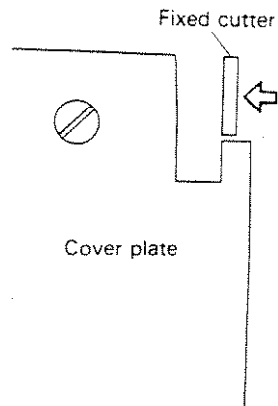
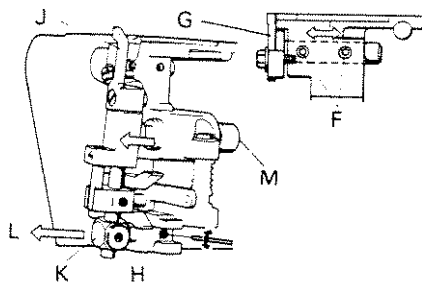

Fig. 3
Fig. 4
10. Loosen screws(F) by hexagonal screw driver and align fixed cutter(G) so that fixed cutter(G) lines up with cover plate as shown in Fig. 3.
11. Make sure that the top of fixed cutter is aligned with cover plate surface and then tighten screws(F) securely.
12. Loosen screw(H) by hexagonal screw driver and moving cutter will be pulled by spring until it touches with fixed cutter (G). Tighten screw(H) while you pull bearing(K) in direction of arrow(L). Make sure there is no gap between two cutters. (Fig. 4)